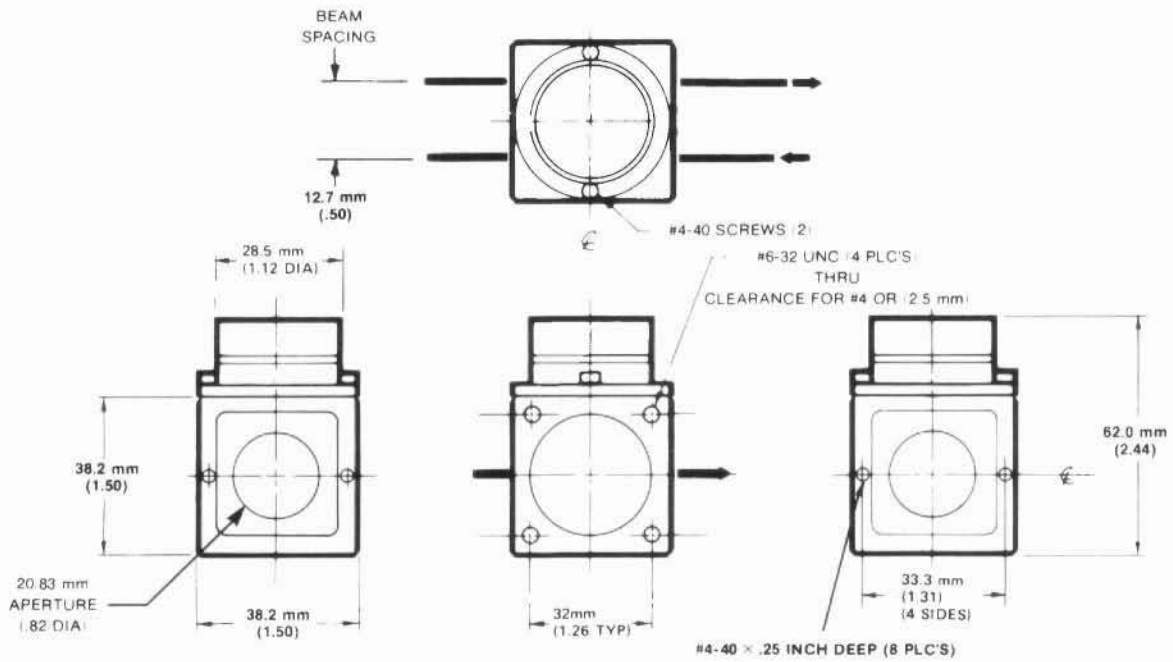

Figure 8-4. HP 10702A Option 001 Linear Interferometer, Dimensions
**Dimensions:** See Figure 8-4.